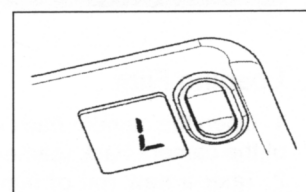

Fig. 10
The number on the Frame Counter ⑧ display will disappear when the Power Switch ⑬ is turned OFF, but the number is stored in the memory and comes back on when the Power Switch is turned on. The battery symbol mark indicates when the battery needs to be replaced. (Fig. 10)
Attaching: plug the Light Guide ④ fully into the Light Guide Connector ③ (Fig. 10). Make sure the tab on the light guide connector is seated in the light guide. With the light guide securely positioned, tighten the knurled knob of the light guide to the light guide connector.